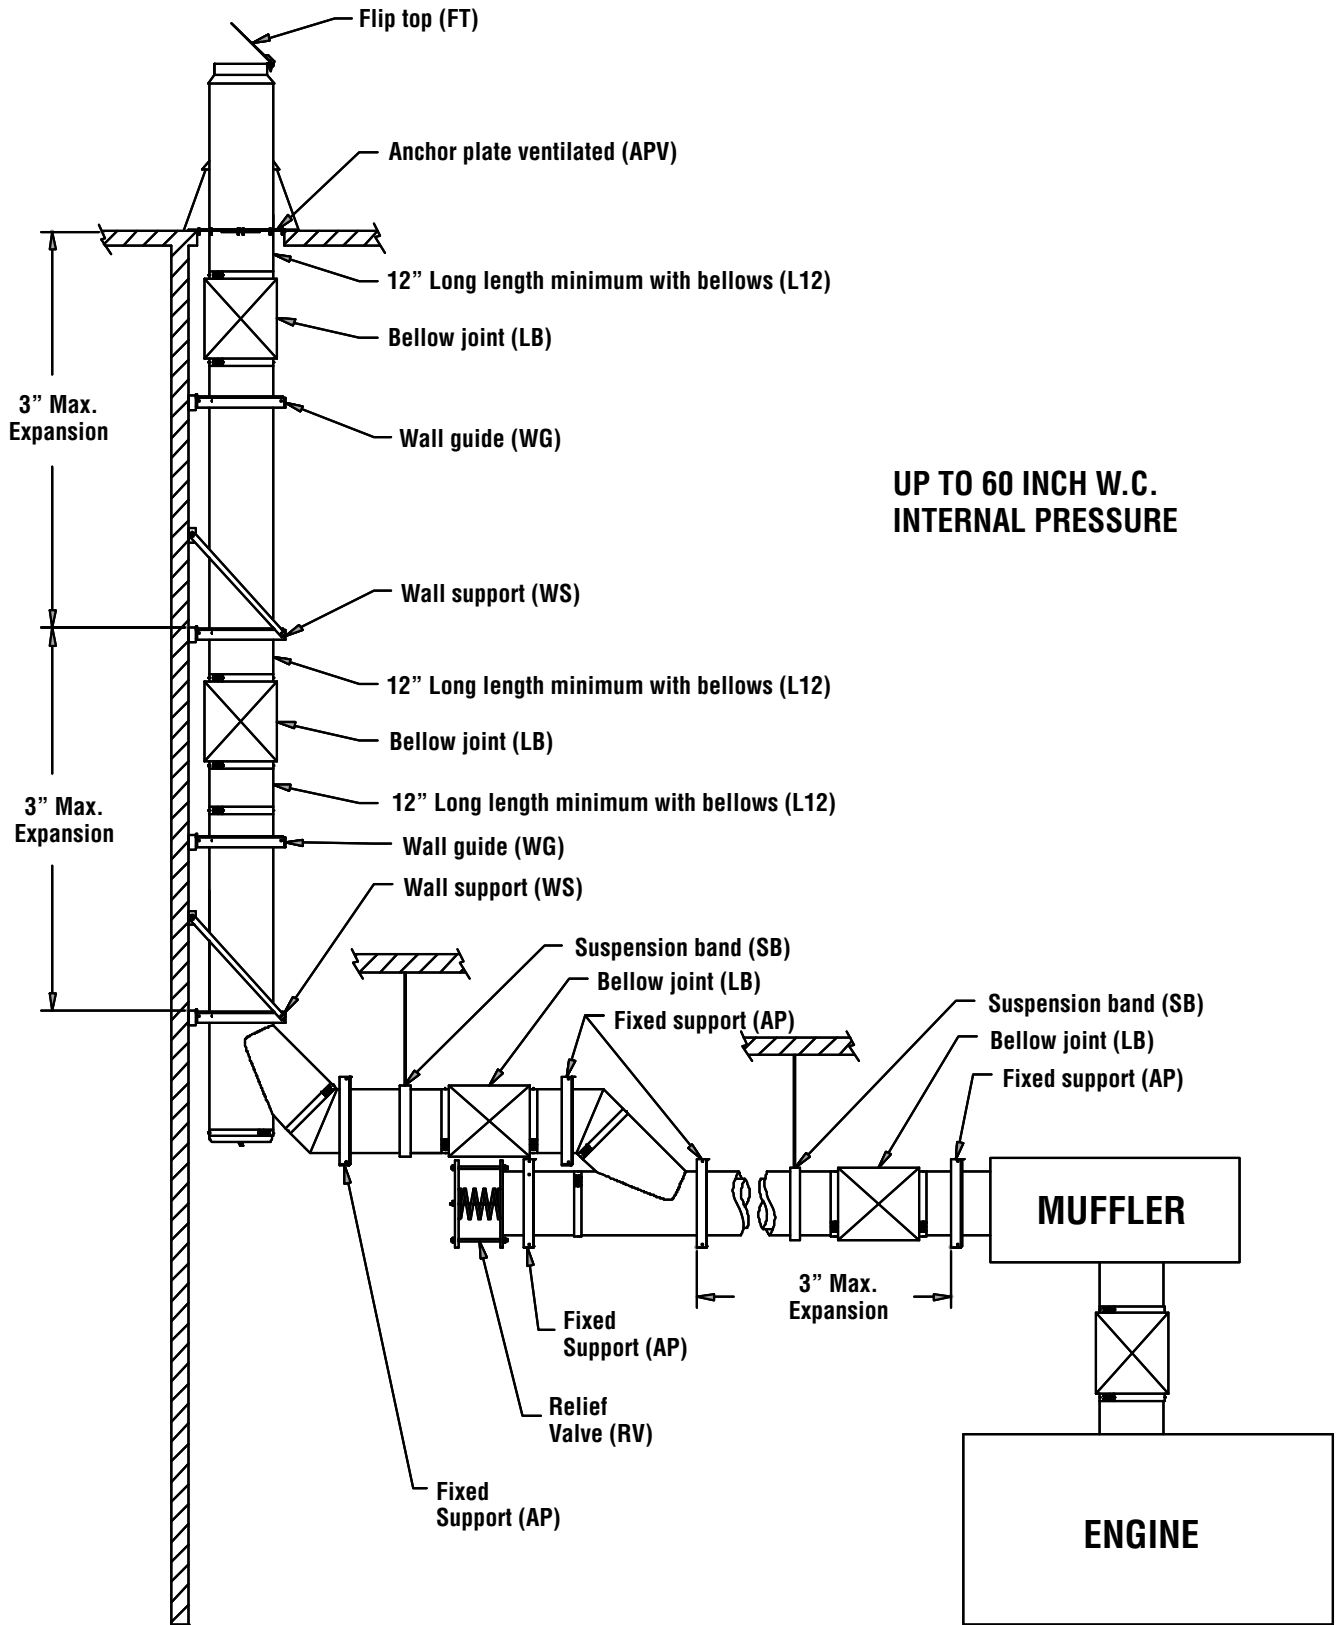

Figure 51 - Bellows Joint installation on Diesel Engine
1. A Bellows Expansion Joints or Adjustable Length installed vertically should be installed directly below one chimney length of the highest support, between fixed points (see **Figure 51**).
4. We suggest to always install a 12" length chimney downstream and upstream the bellow to insure clearance for the liner and adding accessibility for supporting and guiding. See **Figure 51** "bellowjoint" for good positioning of the bellow expansion joint.